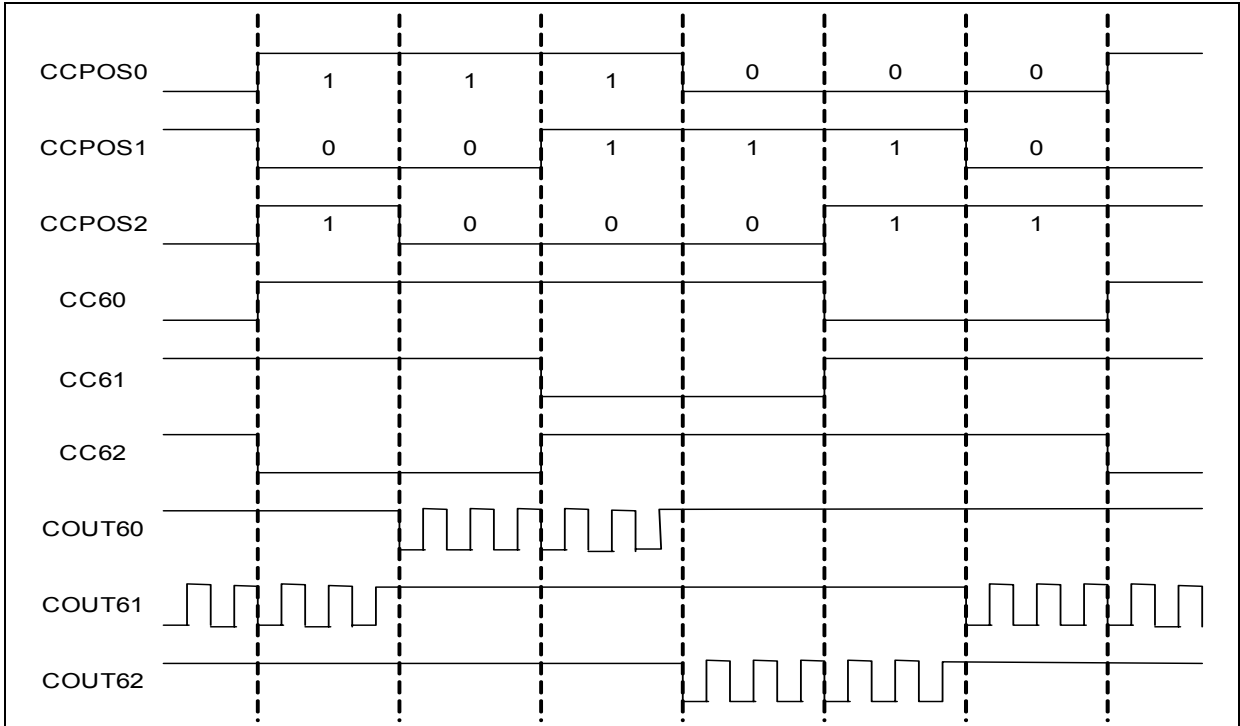
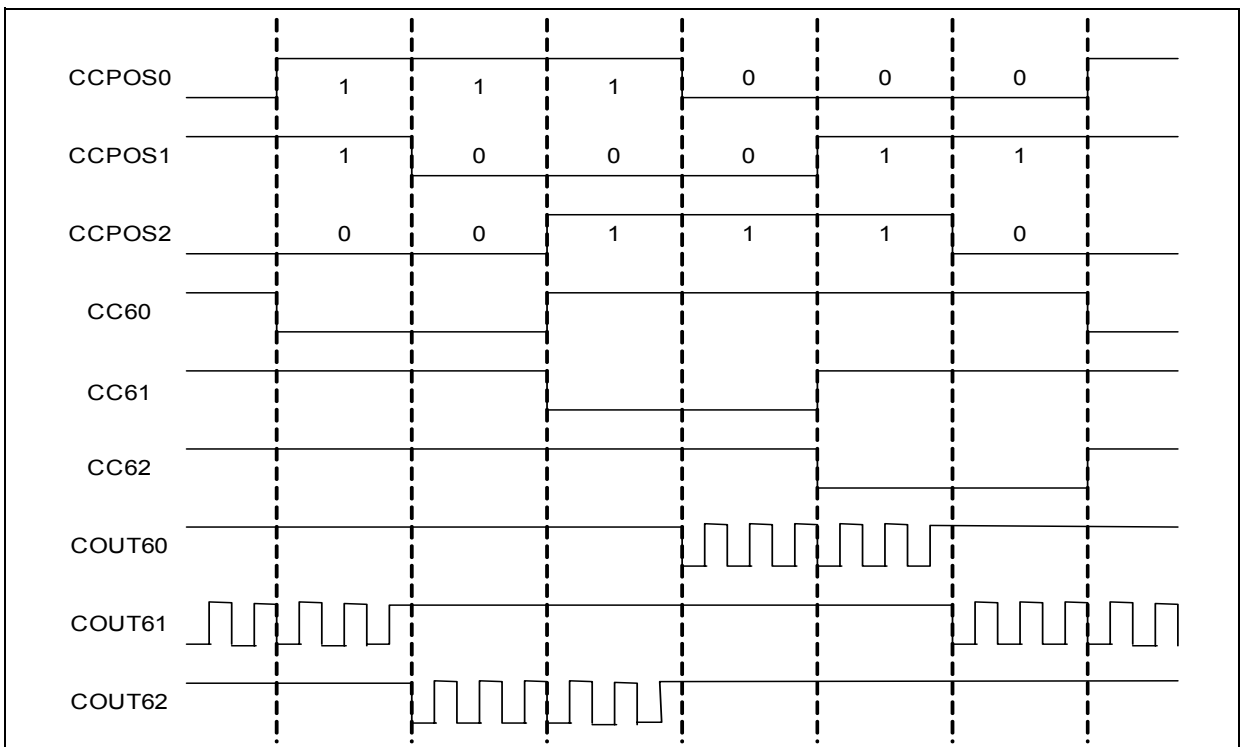

Figure 12-17 Block Commutation in Rotate Left Mode
Figure 12-18 Block Commutation in Rotate Right Mode
**Figure 12-17** shows the block commutation in rotate left mode and **Figure 12-18** shows the block commutation in rotate right mode. These figures are derived directly from **Table 12-1**.